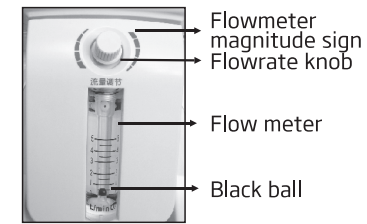

Figure 5
- › Turn the flowrate knob to require oxygen need (Read as centre of the black ball). Turn the knob anticlockwise to increase the flowrate, and clockwise to decrease. Meanwhile, humidifier bottle will have air bubble around the sieve core. Then, oxygen comes from the oxygen outlet. (Figure 5)